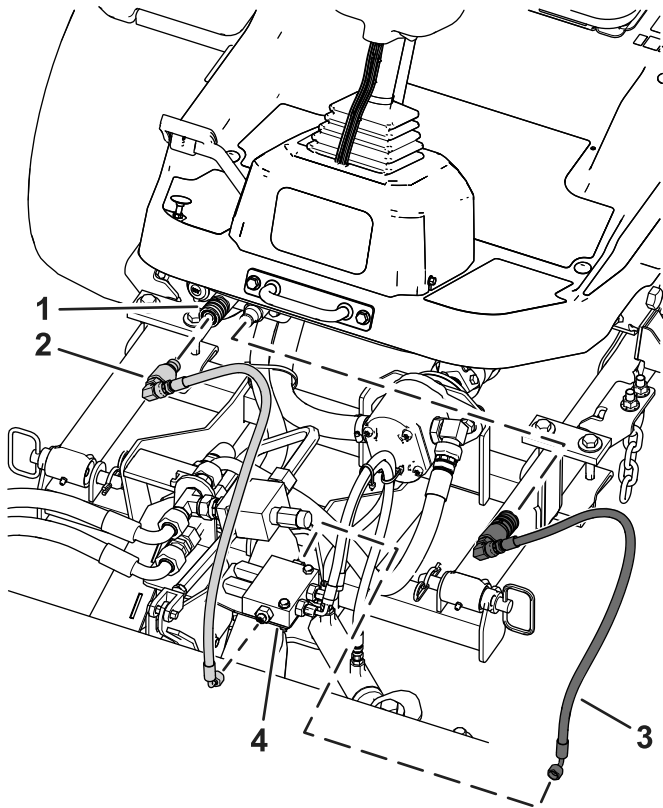
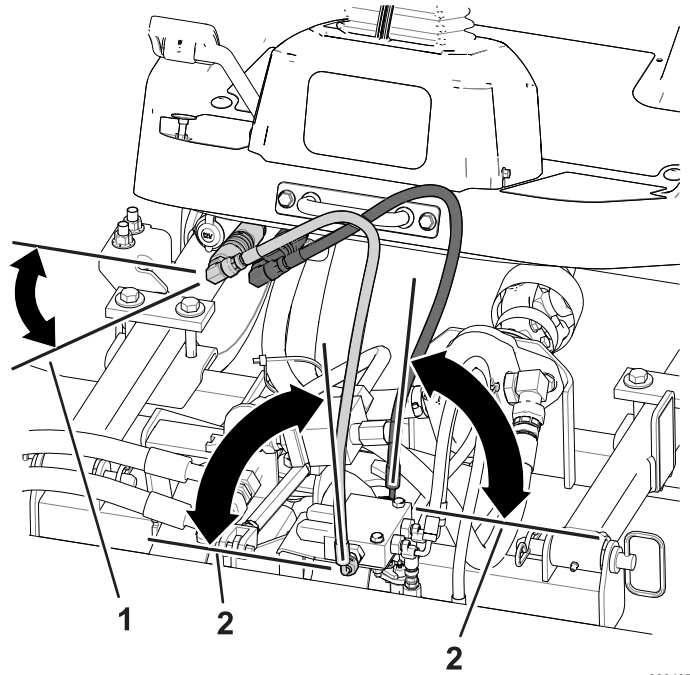

Figure 12
Figure 13
**Note:** Install the hoses at the angles shown in Figure 13.
1. Install the hydraulic hose with the male fitting to the front of the broom manifold (Figure 12). Refer to Figure 13 for the correct angle.
3. Connect the hydraulic hose with the hydraulic port under the steering column (Figure 12).
4. Install the hydraulic hose with the female fitting to the back of the broom manifold (Figure 12). Refer to Figure 13 for the correct angle.
6. Connect the hydraulic hose with the hydraulic port under the steering column (Figure 12).